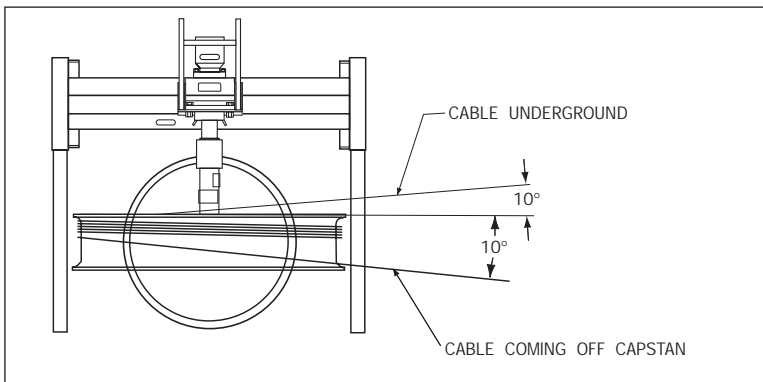

Figure 3a
Position puller over manhole as shown in Fig. 3a.
2. Wrap pulling tape or cable around capstan in a clockwise rotation beginning at the outer edge of the capstan closest to the puller motor at least (4) times being careful not to over-lay the pulling tape or cable. Entire hydraulic puller assembly may have to be moved slightly to properly align the tape or cable being pulled with the capstan to avoid a cross-over condition of the pulling tape or cable.
3. In order to prevent it from becoming entangled with the capstan or hydraulic puller, the pulling tape or rope must be guided off the capstan. (See Figure 3a on page 7)